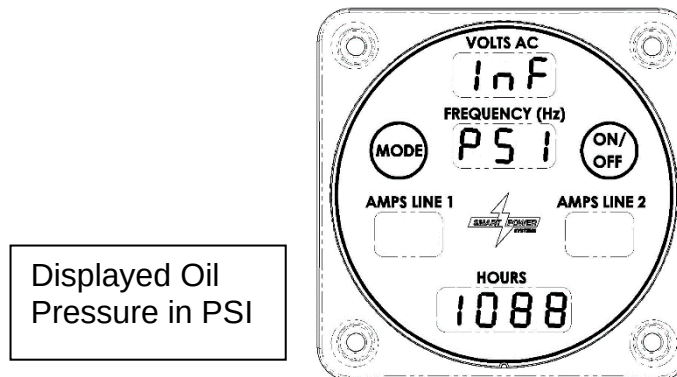

Figure 17 – System Inlet Pressure Display Example
- b. Inlet pressure to the generator will be displayed next in the hours field by pressing the Mode switch a second time as seen in Figure 17.